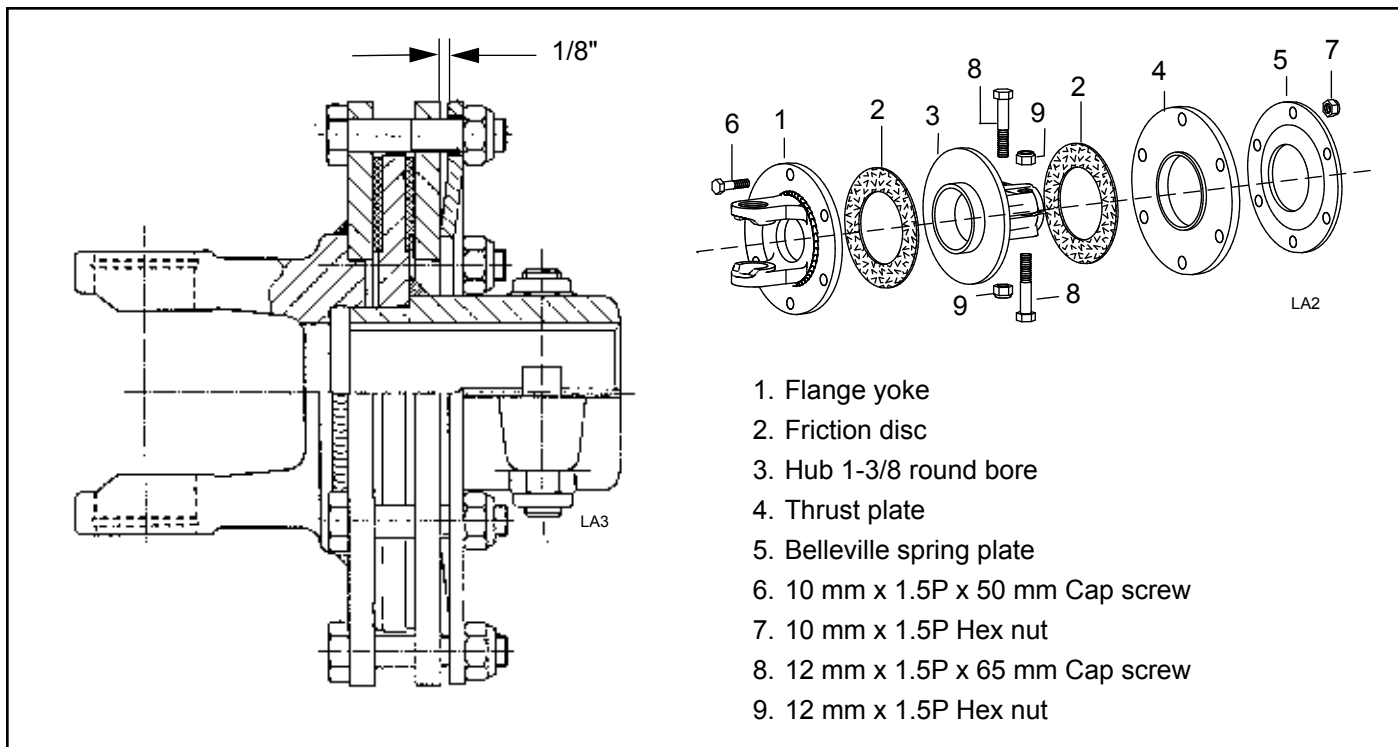

Figure 7. 2-Plate Slip Clutch Assembly
(Figure 7)
3. Loosen six 10 mm cap screws (6) to remove all tension from Belleville spring plate (5).
4. Hold clutch hub (3) solid and turn shaft to make sure clutch slips.
5. If clutch does not slip freely, disassemble and clean the thrust plate faces (4), flange yoke (1), and clutch hub (3).
7. Tighten Belleville spring (5) until it is against the thrust plate (4) of the clutch, and then back off each of the six nuts by 2 full revolutions. The gap between Belleville spring and thrust plate should be 1/8" as shown in Figure 7.
8. If a clutch continues to slip when the spring is compressed to 1/8" gap, check friction discs (2) for excessive wear. Discs are 1/8" when new. Replace discs after 1/16" wear. Minimum disc thickness is 1/16".